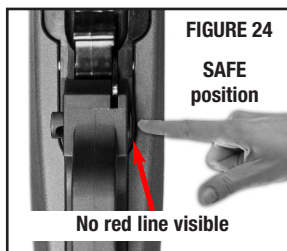

FIGURE 24
- Put the safety button into the SAFE position (FIGURE 24).